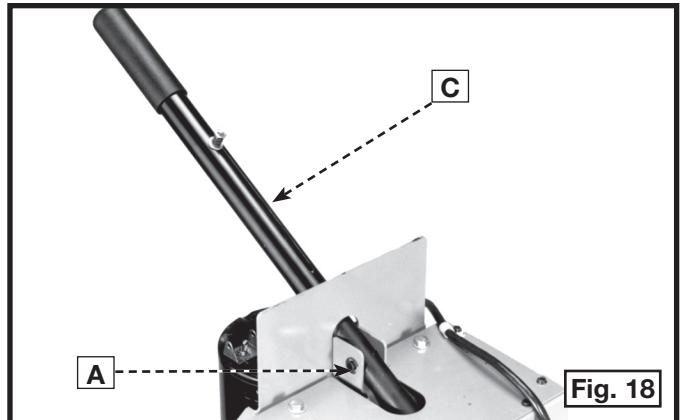

Fig. 18
2. Insert the end of the operating handle (C) Fig. 18 into the head assembly and fasten the handle in place by attaching the connecting pin (removed in **STEP 1**) through the hole in the end of the handle. Replace the retaining ring (A).